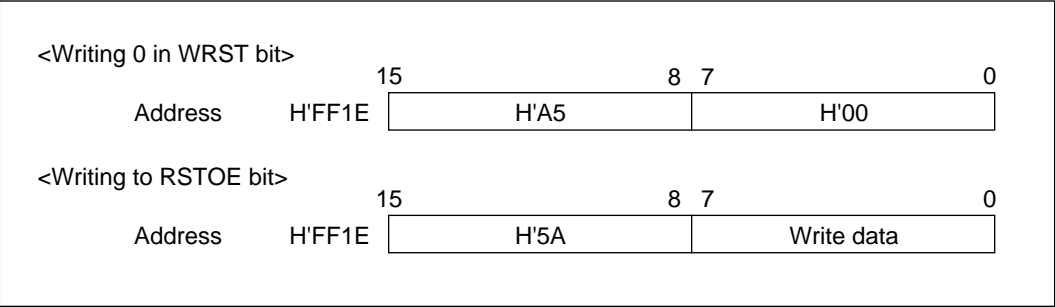

Figure 13-3 Format of Data Written to RSTCSR
(2) Writing to RSTCSR: RSTCSR must be written by word access. It cannot be written by byte instructions. Figure 13-3 shows the format of data written to RSTCSR. To write 0 in the WRST bit, the write data must have H'A5 in the upper byte and H'00 in the lower byte. The H'00 in the lower byte clears the WRST bit in RSTCSR to 0. To write to the RSTOE bit, the upper byte must contain H'5A and the lower byte must contain the write data. Writing this word transfers a write data value into the RSTOE bit.